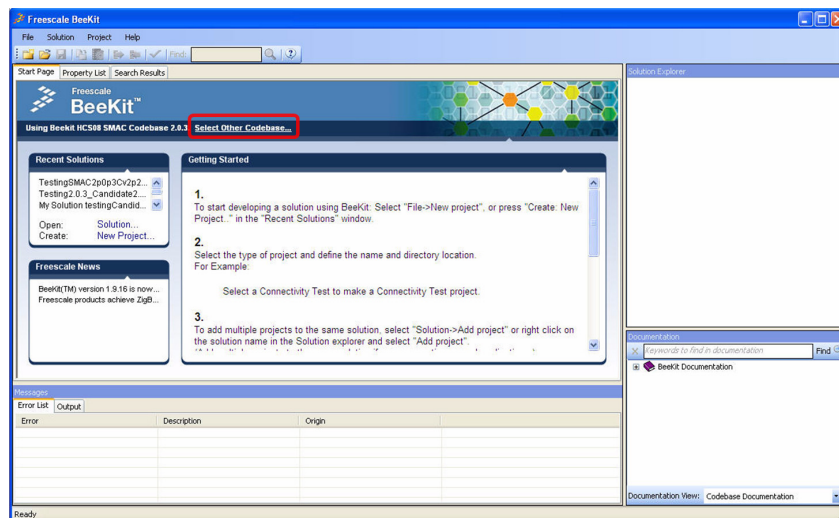

Figure 1-2. Select Other Codebase
2. Click on "Select other codebase" to change codebase as shown in Figure 1-2